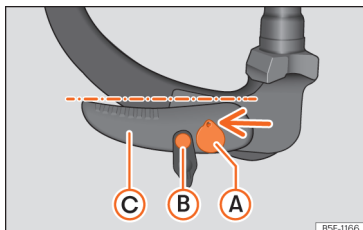

Fig. 171 Reserve position: position verification
- Key » **Fig. 171 A** is in the released position (the key hole is facing upwards).
- The release bolt » **Fig. 171 B** can be moved.
- Lever » **Fig. 171 C** is in the lower position.